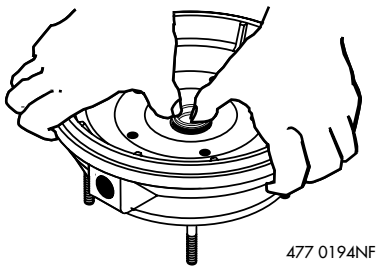

Figure 5: Press seal into heat sink in seal plate
1. Ceramic seat must be clean and free of dirt, grease, dust, etc. Wet outer edge of rubber cup on ceramic seat with small amount of liquid detergent; press ceramic seat into seal plate insert firmly and squarely with finger pressure (Figure 5).